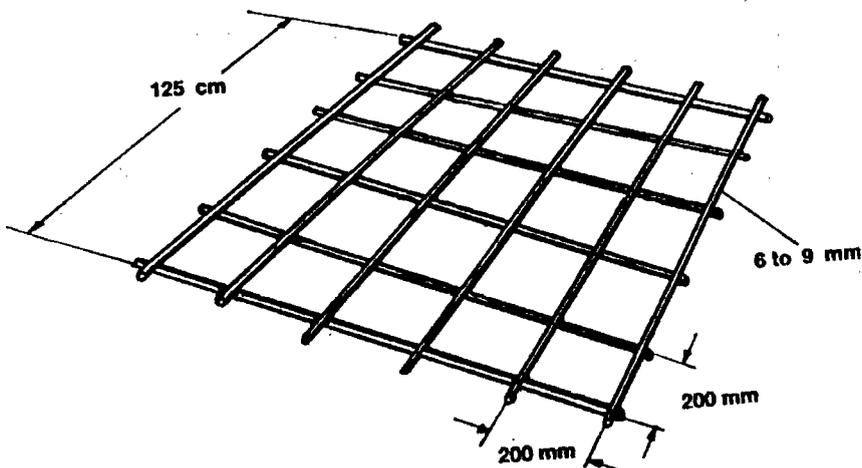

Figure 6. Re-inforcement grid
- Make or cut a wire mesh or grid to lie inside the pit. The wires can be 6 to 9 millimetres thick and about 200 millimetres apart (see Figure 6). Cut a hole about 250 millimetres in diameter in the middle of the grid.